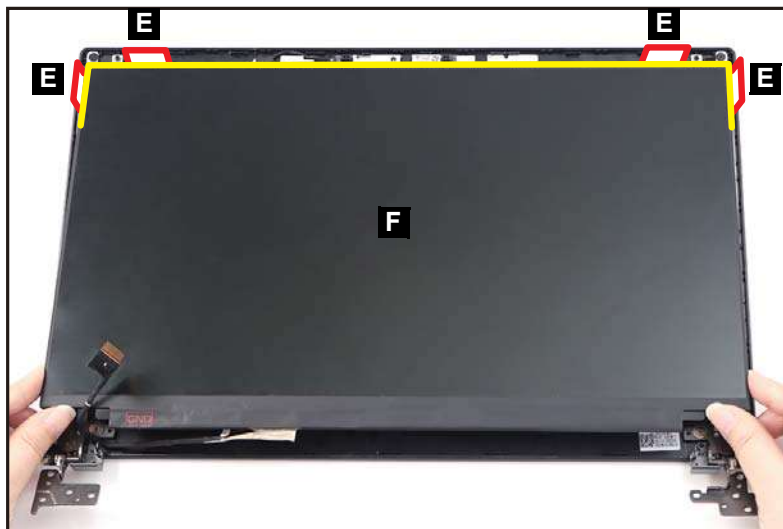

Figure 3-81. Replacing the LCD Panel
5. Place four (4) 0.5mm LCD alignment mylars (E) on the upper sides of the LCD cover as shown in Figure 3-81.
6. Starting from the upper side, carefully place the LCD panel (F) on the LCD cover. Then press the LCD panel down until it is firmly seated on the LCD cover (Figure 3-81).